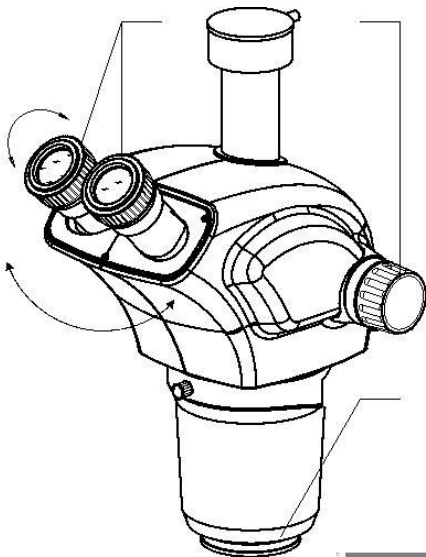

Figure 3
The difference in binocular vision of different users can be corrected by adjusting the visibility adjusting ring 1 located on the eyepiece (see Figure 3).
(2)Proper pupil distance can bring comfortable observation effect. The adjustment of pupil distance is realized by "rotation" of binocular lens, refer to Fig. 3.
(3)If you need to use an additional objective lens to change the magnification, you can screw it directly into the objective lens 3, as shown in Figure 3.